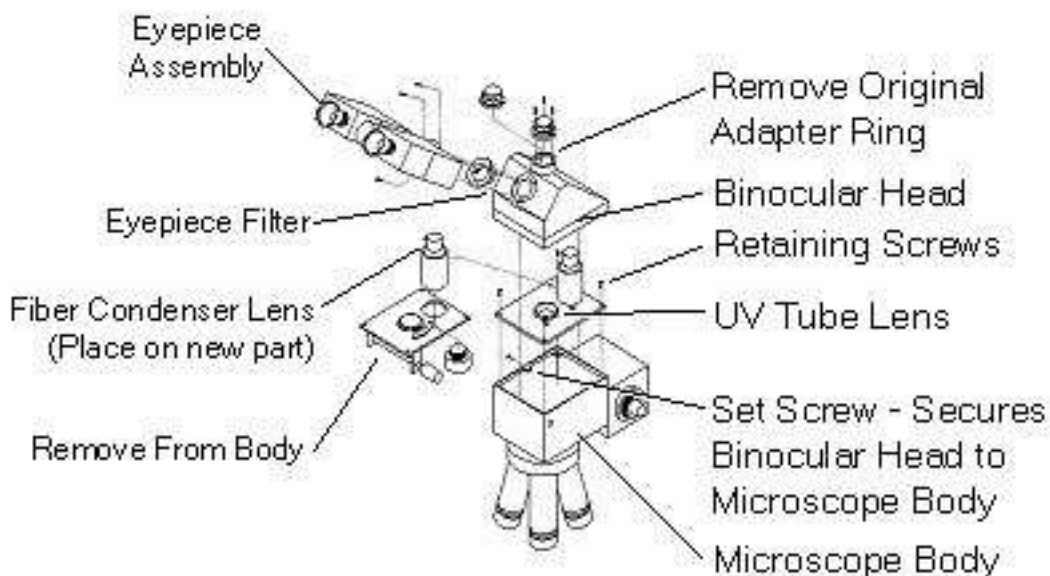

Figure 4-3: FS60 Microscope modifications
- Remove the eyepiece assembly and the three screws that secure the eyepiece to the body of the microscope (see Figure 4-3).
- Remove the three cap screws (use a 2.5 mm hex wrench) that secure the old adapter ring to the microscope (see Figure 4-3).
Tighten the set screws that secure the base of the laser head to the laser adapter ring. See Figure 4-3 on page 222. Use a 2 mm (5/16" standard) hex wrench to tighten the two set screws. The red emission LED should face the operator when standing in front of the Mitutoyo FS microscope. The emission LED faces to the right when mounted on an A-Zoom or VMZoom.